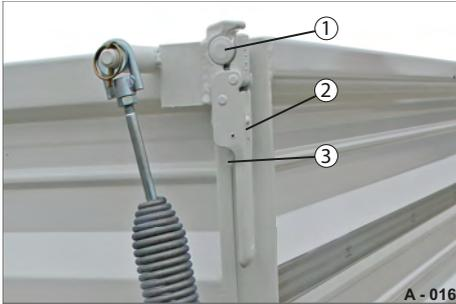
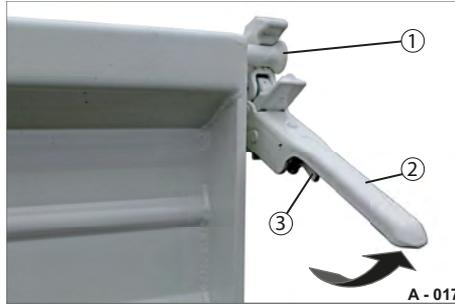

Fig. 18 Lock secured
Fig. 19 Lock unfastened
- ▶ Press in the lock safeguard (Fig. 18/3 & Fig. 19/3) and
- ▶ pull on the lock lever (Fig. 18/2 & Fig. 19/2).
The bearing pin (Fig. 19/1) is released.
- ▶ Press the lock lever (Fig. 18/2) shut with your hand flat. The lock safeguard (Fig. 18/3) snaps shut. The bearing pin (Fig. 18/1) is locked. The platform gate is secured at top with both locks.